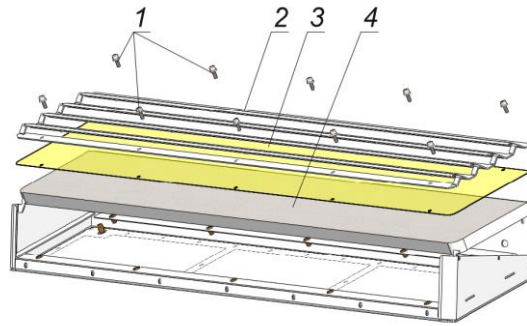

Figure 7.3. Filter case
3. Remove screws 1 in the filter housing, remove plate 2, remove grille 3, remove filter element 4 (Figure 7.3).